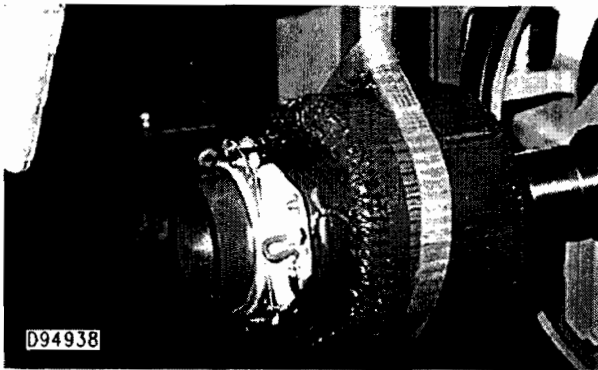

Figure 7
B. Using a hoist and strap, remove exciter armature and rotating rectifier. The weight of the exciter armature and rotating rectifier as a unit is 16.8 Kg (37 lb). See figure 7.